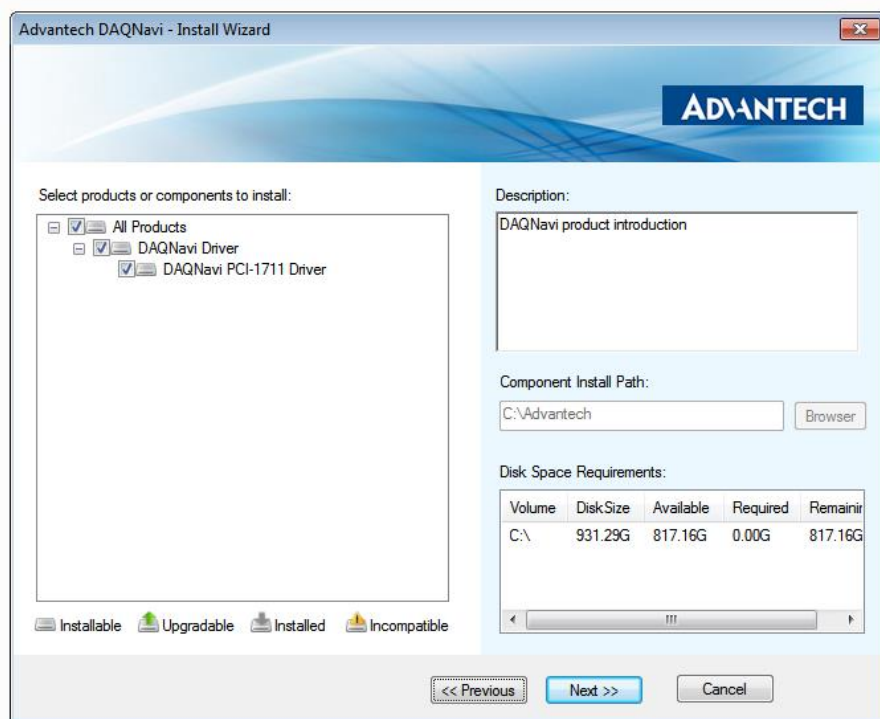

Figure 5 Destination Folder Window
4. Fill the fields with proper information and press 'Next'. The installation options window will appear (Figure 5).